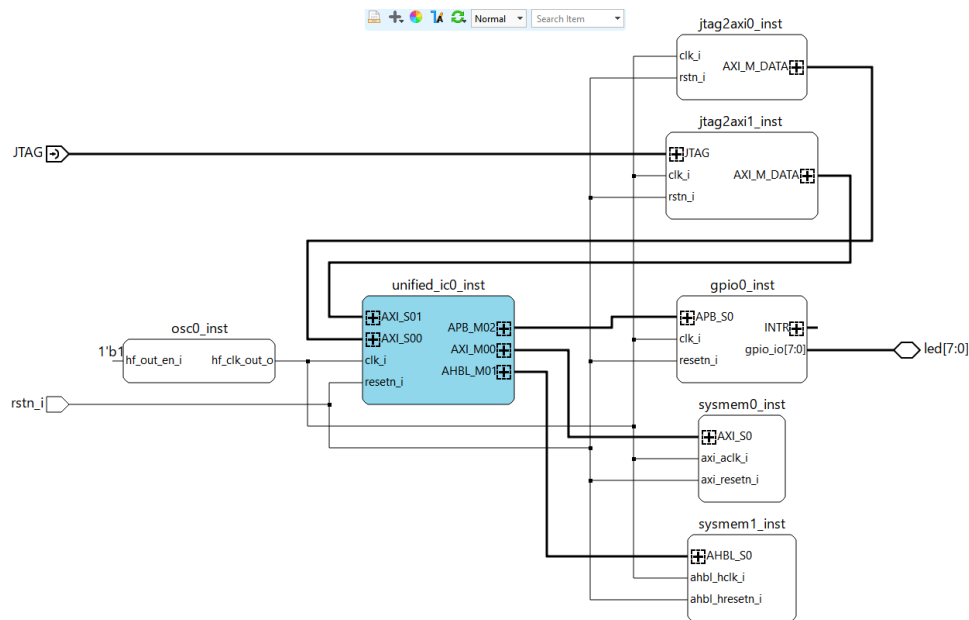

Figure 4.9. SoC Schematic
- The design includes two memory IPs with different interface types, one GPIO IP, and two JTAG Bridge IPs with different working modes (Figure 4.9).